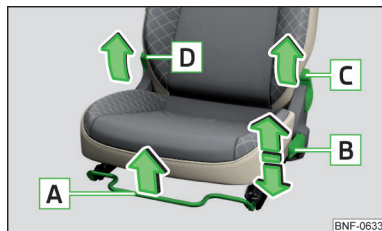

Fig. 50
Driver's seat controls » Fig. 50
- Pull lever **D** » Fig. 50 and fold the seat backrest forwards.